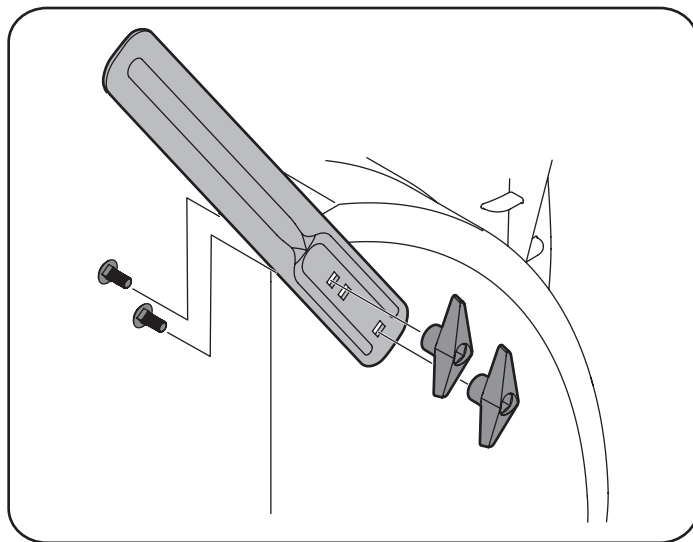

Figure 44
3. Attach the drift cutters with the screws and wing knobs on the outside of the auger housing as shown in Figure 44.